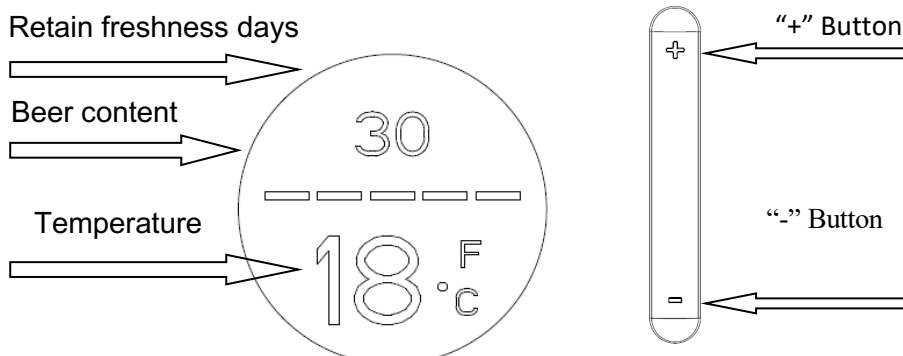

FIGURE 11
14. Display panel function (as shown in Figure 11)